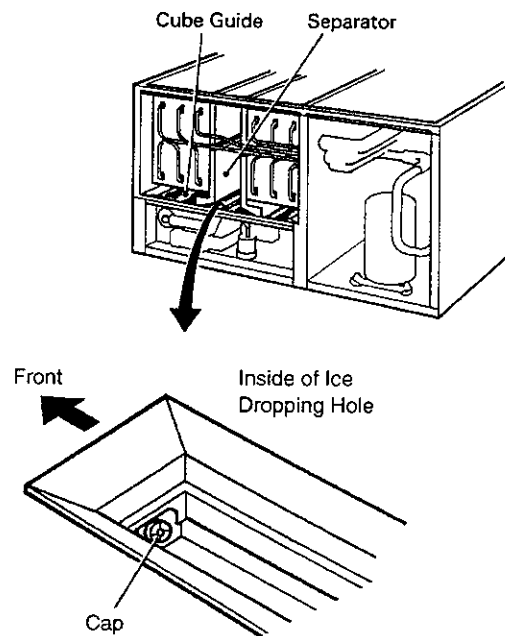

Fig. 5
- 3) Drain the Water Tank by removing the Insulation Panel and the Cap located on the front bottom part of the Ice Dropping Hole. See Fig. 5.
- 5) Drain the Water Tank by removing the Cap located on the front bottom part of the Ice Dropping Hole. See Fig. 5.